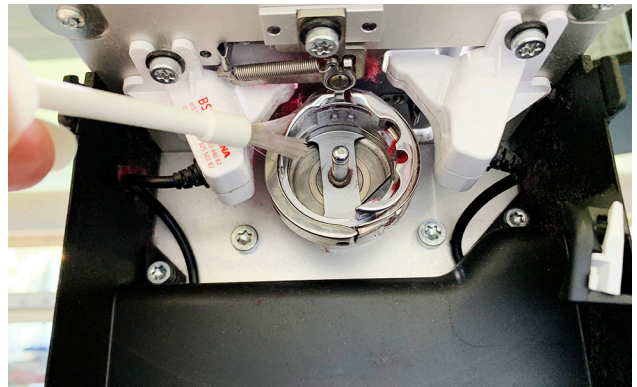

Fig. 3
6. Brush the lint out of the bobbin area (Fig. 3).